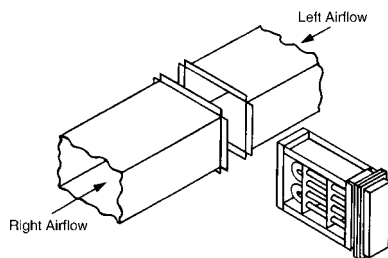

Figure 86A. Standard Flanged Heater Installation
1. **Construction Type** – Standard flanged or optional slip-in. See Figures 86A and 86B.